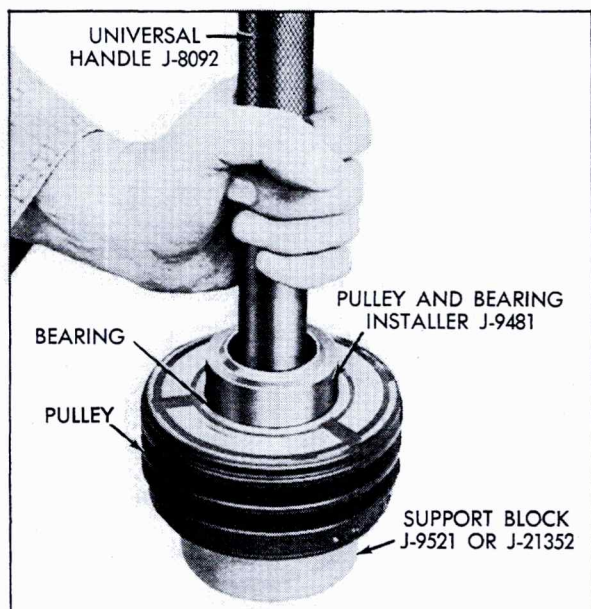

Fig. 1-47 Installing Bearing on Pulley
5. Install new bearing in pulley using Pulley and Bearing Installer J-9481 with Universal Handle, J-8092, Fig. 1-47. The tool will apply the force to the outer race of the bearing.